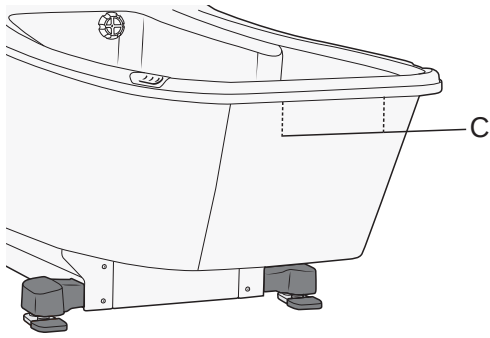

Figure 101
4. At the head end, loosen the two nuts (C) holding the outer cover. Do not remove them. See Figure 101.